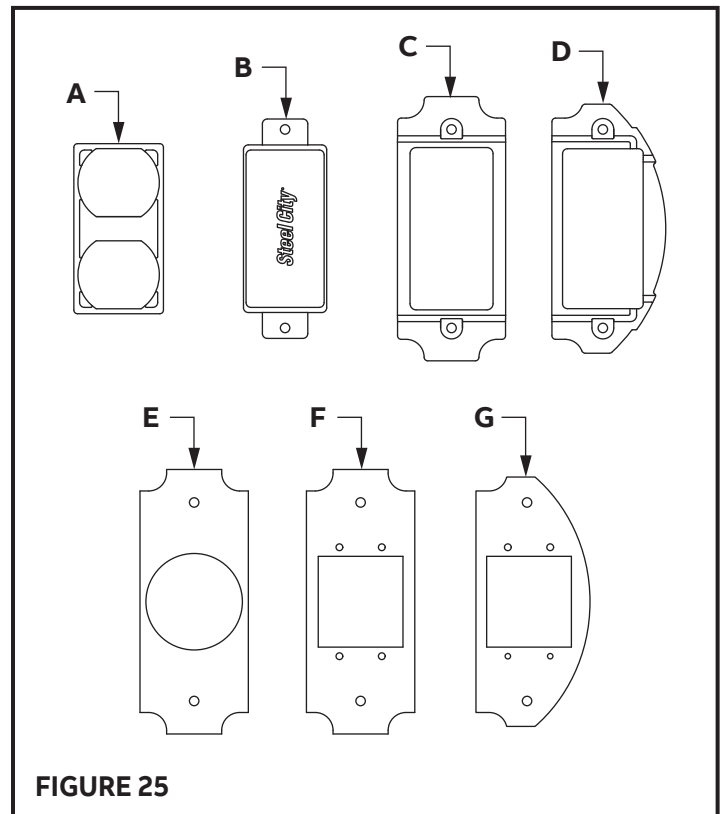

FIGURE 25
10.1 The RPT6-3G-XXX can be outfitted with other power and data plates to meet your floor box requirements. Shown are some of the Plates Thomas & Betts offers. Consult the catalog or website for further details. (See Figure 25).